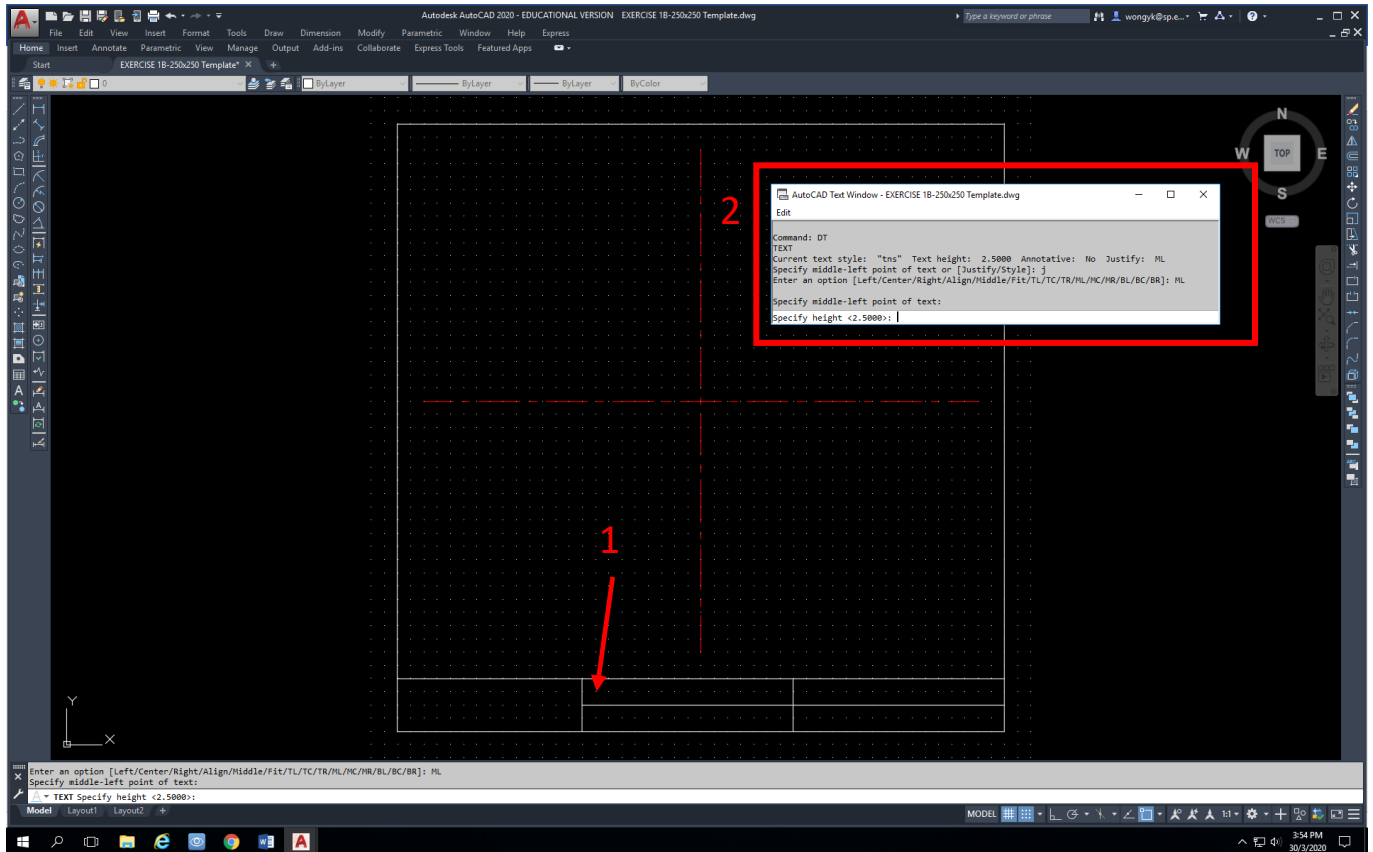

Fig 10
- iv. Specify middle left point of text: **Click at the position (1)**= 5mm away from vertical partitioned line as seen in Fig 10. The Steps are shown in **box (2)**